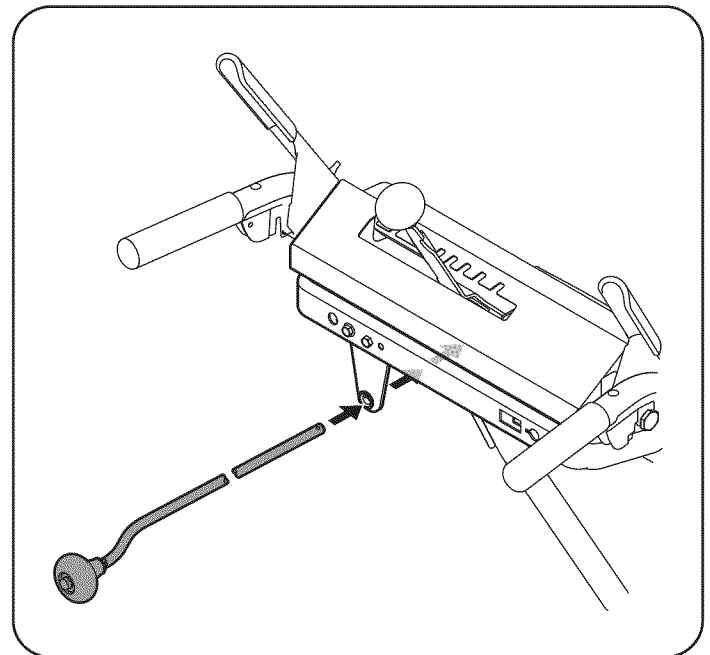

Figure 7
8. Insert the chute directional control into the support bracket on the rear of the dash panel. See Figure 7.